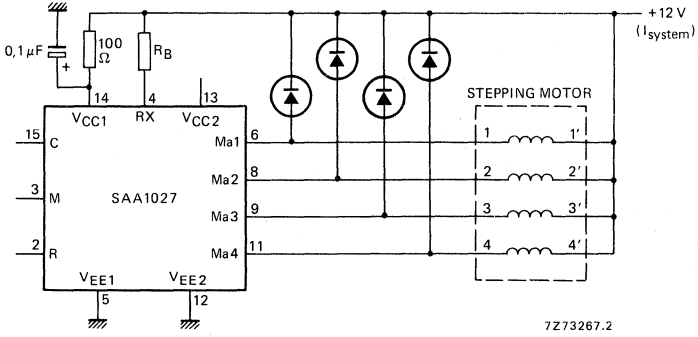

Fig. 2.
- When both the IC and the motor are connected to the same supply, a simple RC network (see Figs 2 and 3) must be used in the logic supply line to prevent the logic sequence from being disturbed by transient spikes caused by the motor coils being switched. The R_B value varies per motor type. The capacitor should be connected as close as possible to pin 14.